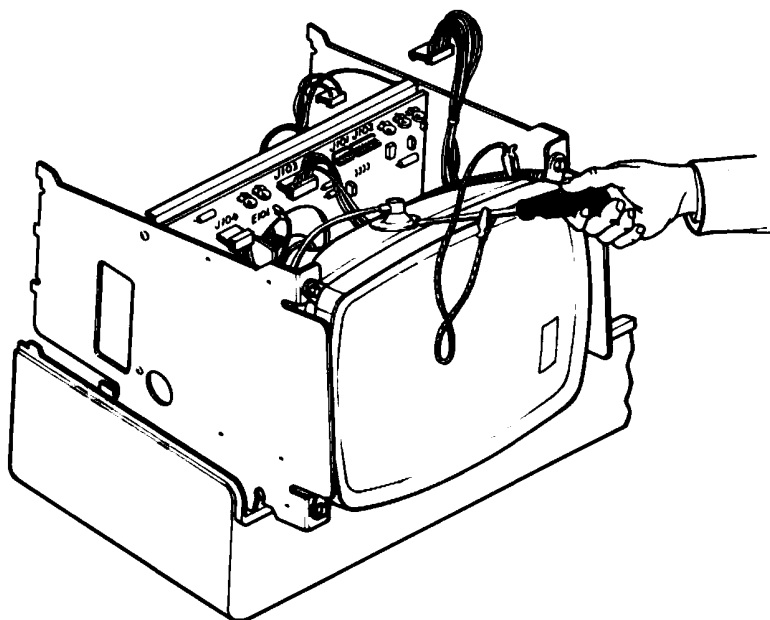

Figure 7-9 CRT Discharge Procedure
2. Attach one end of the wire jumper to the aquadag spring (located on the tapered back of the Cathode Ray Tube). Refer to Figure 7-9 in the “Monochrome CRT Discharge Procedure” section of this chapter for an illustration of this attachment.